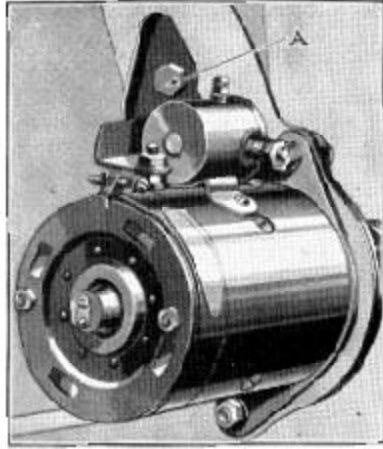

Figure 19
To insert Hudsonite, turn the engine until the drain plug (A), Figure 19, in the front face of the flywheel is visible through the timing inspection hole in the left side of the engine rear plate. Remove the plug and turn the engine slowly until the star stamped in the front face of the flywheel is visible through the inspection hole. Allow a minute in this position to drain, then turn the engine until the filler hole again appears in the timing hole and insert one-third pint of